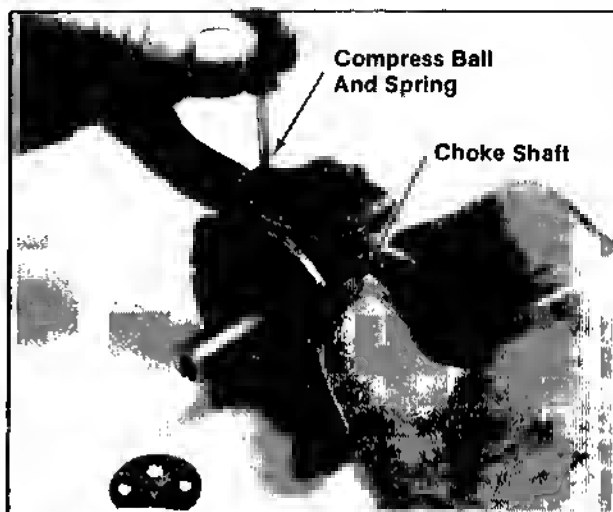

Figure 6A-12. Installing Choke Shaft.
2. Compress detent ball and spring and insert choke shaft through bushings. Make sure the choke lever is on the correct side of carburetor body. Refer to Figure 6A-12.